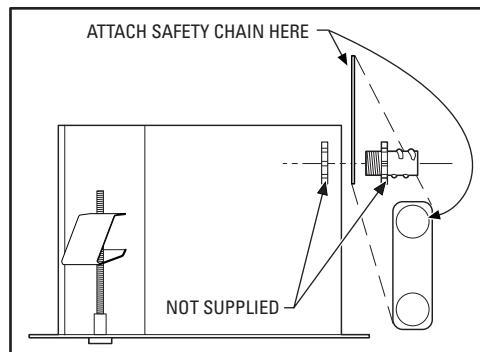
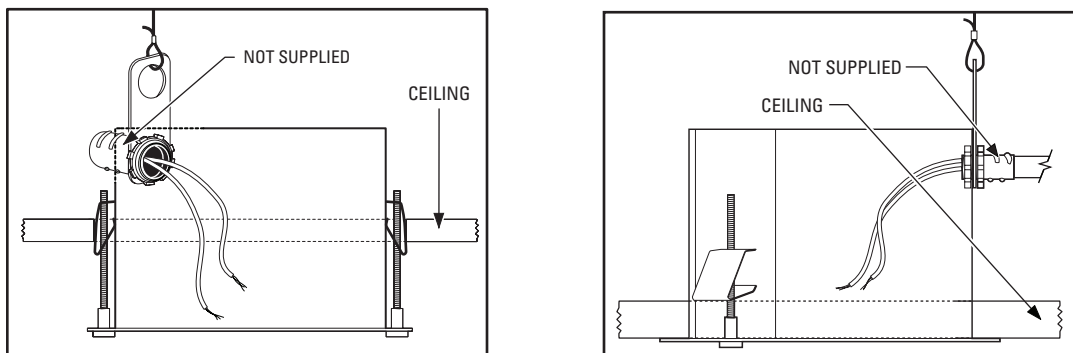

Figure 2. Attaching the Safety Chain
Figure 3. Installing the In-Ceiling Back Box
2. Attach a conduit fitting (not supplied), lock nut (not supplied), and safety chain bracket. Attach to the bracket one end of a safety chain/cable (not supplied) that will support up to 16 pounds (7.3 kg). Refer to Figure 2. Do not attach the other end of the safety chain yet.
4. Remove an adjacent ceiling tile. Prepare the wiring for camera and lens power; refer to Table A and Table B in the *Appendix* on page 13 for wiring distances. Pull the wiring into the back box through the conduit fitting. Attach the safety chain to a support structure (refer to Figure 2 and Figure 3 on page 6). Replace the adjacent ceiling tile.